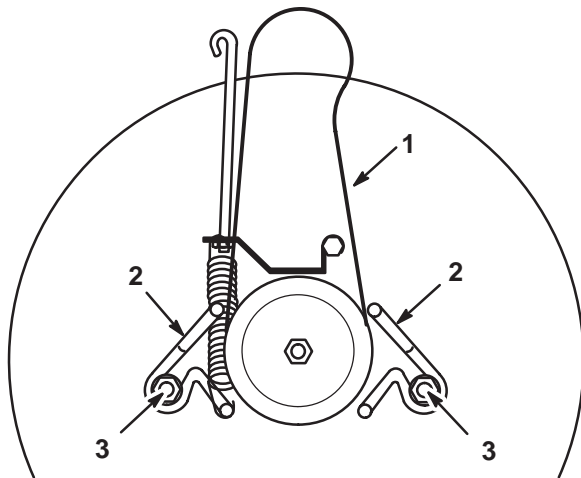

Figure 46
2. Loosen the belt guide mounting bolts and move the belt guides away from the pulley (Fig. 46).
1. Install the new belt around the blade pulley and inside both of the belt guides (Fig. 46).
2. Adjust the belt guides so they are 1/8 in. (3 mm) away from the pulley. Tighten the mounting bolts (Fig. 46).